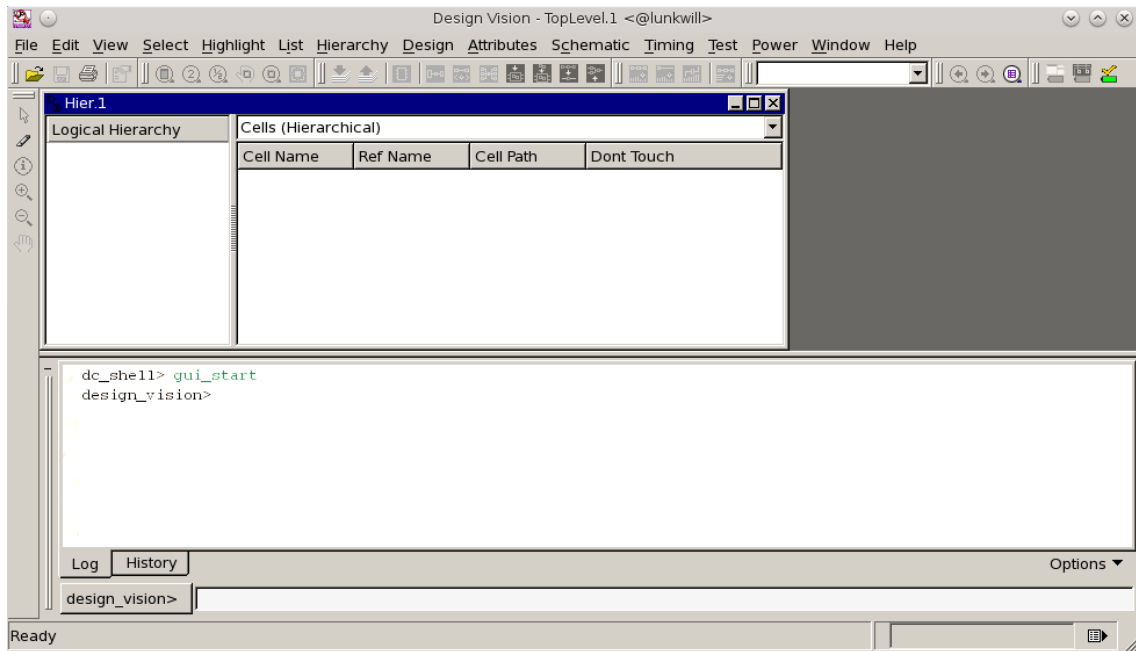

Figure 2.1: The main window of Design Vision GUI.
4. Take a minute to familiarize yourself with the interface (Figure 2.1). The “Hier.1” window allows you to browse the design hierarchy (now empty). The **Log** tab is located at the bottom of the main window (you might need to stretch it upwards, to make it visible). Under the **Log** tab, there is a textbox where you can enter commands to the software.